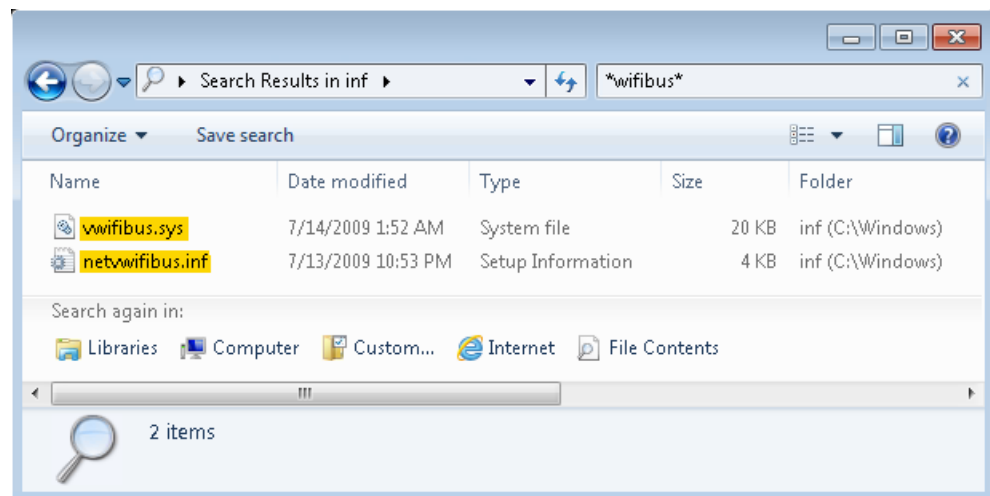

Fig. 8: Files for the Wi-Fi bus driver
- Check if the files "netwifibus.inf" and "vwifibus.sys" are already available in the "C:\Windows\" directory of the T&M instrument (see **Fig. 8**).